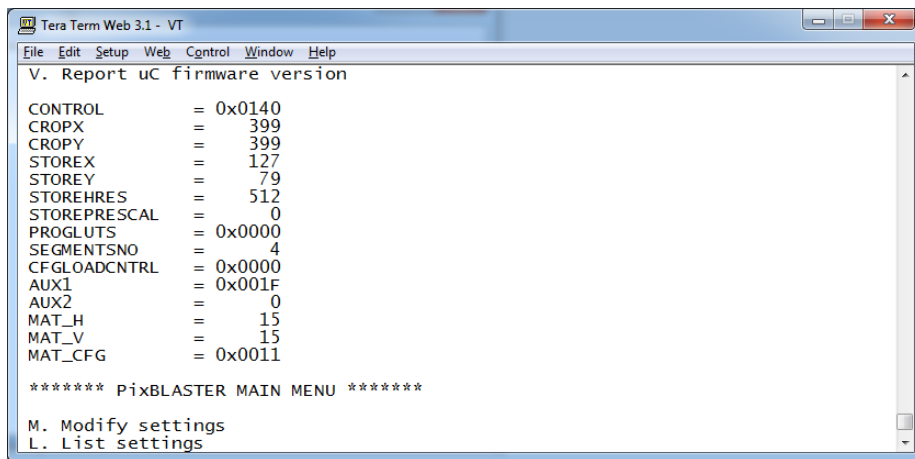

Figure 12. New Values of Internal Registers for 128x80 Display
- Hit ‘L’ to check the initialization for the targeted 128x80 video display. It should look like shown on Figure 12.